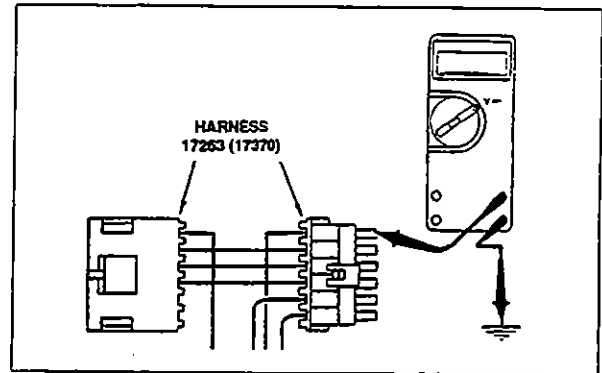

Fig. 1.1.22
**Jacobs Switch Group:** Disconnect P/N 017263 (017370) harness from Jacobs control module. Measure the voltage at the RED wire. The voltmeter should read +12 VDC when the main power supply is ON and 0 VDC with main power supply OFF (Fig. 1.1.22). If these conditions are not present, check power supply and connections.